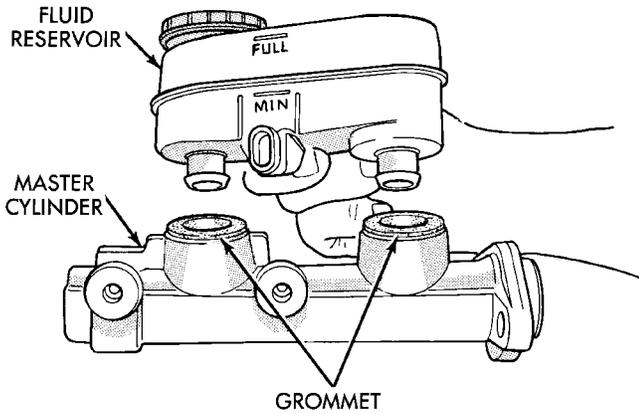

Fig. 164 Removing Fluid Reservoir From Master Cylinder
(3) Rock brake fluid reservoir from side to side while pulling up to remove the reservoir from the master cylinder housing (Fig. 164).
(4) Remove master cylinder housing to brake fluid reservoir grommets.
(5) Install new master cylinder housing to brake fluid reservoir sealing grommets (Fig. 164) in master cylinder housing.
(6) Lubricate reservoir mounting area with fresh clean brake fluid. Place reservoir in position over grommets. Seat reservoir into grommets using a rocking motion while firmly pressing down on fluid reservoir.
(7) Be sure reservoir is positioned properly.
(8) Make sure bottom of reservoir touches top of grommet.